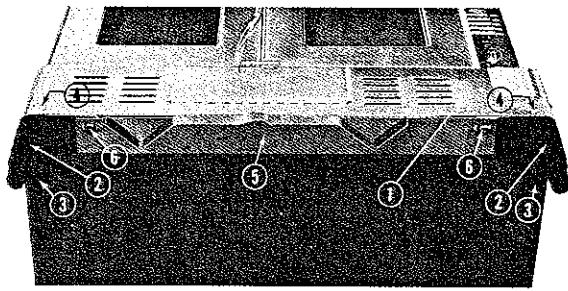
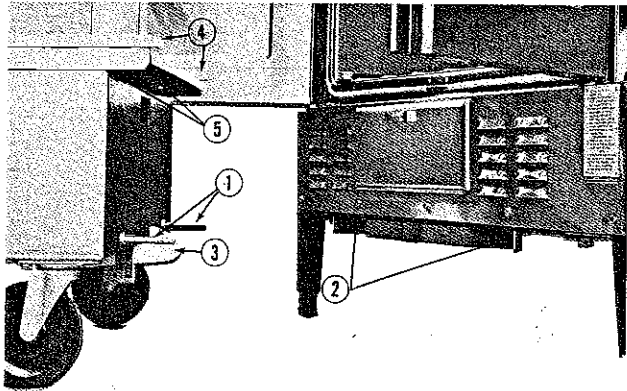

FIG. 18
FIG. 19
1. First remove the combustion compartment cover (Fig. 18, No. 1). Tip the oven back and place the front legs (Fig. 18, No. 2) so as to line up with the three attaching bolt holes. Insert two of the $\frac{1}{2}$ " bolts through the leg attaching plate and thread into oven frame (Fig. 18, No. 3). Insert two $\frac{1}{2}$ " bolts through the corner of the frame from combustion side and thread into legs (Fig. 18, No. 4). Place docking assembly (Fig. 18, No. 5) on lower frame of oven, as shown, align slots with bolt holes and insert two $\frac{1}{2}$ " bolts (Fig. 18, No. 6) and thread into oven frame. Leave these bolts loose for later adjustment. When attaching docking assembly, make sure hooks on back side are placed above the angle iron on the oven frame.
2. After leveling, note that distance from bottom side of oven to floor underneath should be as close to 7" (178mm) as possible to facilitate docking alignment to transport cart. (See Figure 19.)
2. Move and latch transport cart into place at front of oven. The two alignment pins on front of cart (Fig. 19, No. 1) should line up with channeled openings in docking assembly (Fig. 19, No. 2). The locking bar (Fig. 19, No. 3) will also lock to docking assembly. If there is difficulty with the locking bar engaging the docking assembly, adjust the assembly forward or backwards to allow latching.
3. Align inner vertical edge of tracks on transport cart (Fig. 19, No. 4) with same vertical edge of tracks located on oven liner bottom. (Fig. 20, No. 1). This adjustment can be made by moving the docking assembly either left or right. With the docking assembly adjusted for both latching and alignment tighten the two $\frac{1}{2}$ " bolts (Fig. 18, No. 6).
4. The transport cart has been adjusted for height before being shipped, however, a final adjustment may be required at the installation site. The tracks on the transport cart should be the same height as the tracks on the oven liner bottom. This adjustment is made by raising or lowering the nuts on the four leveling screws located in each corner of the transport cart (Fig. 19, No. 5).